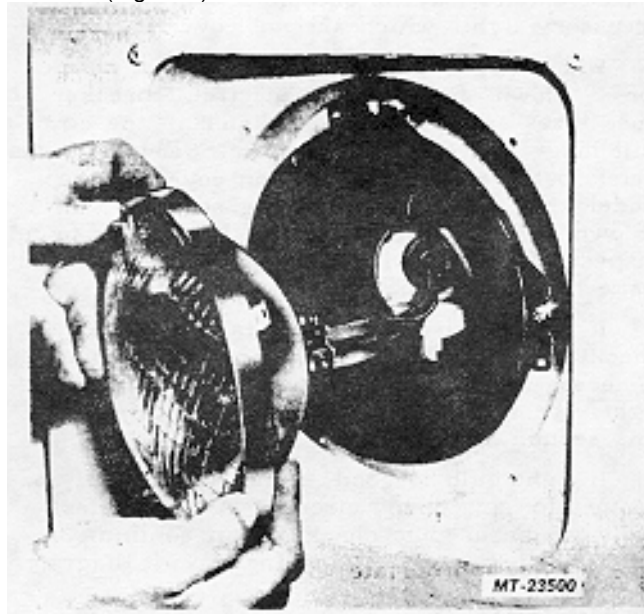

Fig. 5 Removing Sealed Beam Unit
3. Pull sealed beam unit from headlight assembly. Disconnect three-way wiring connector from rear of sealed beam unit (Figure 5) and remove sealed beam unit.